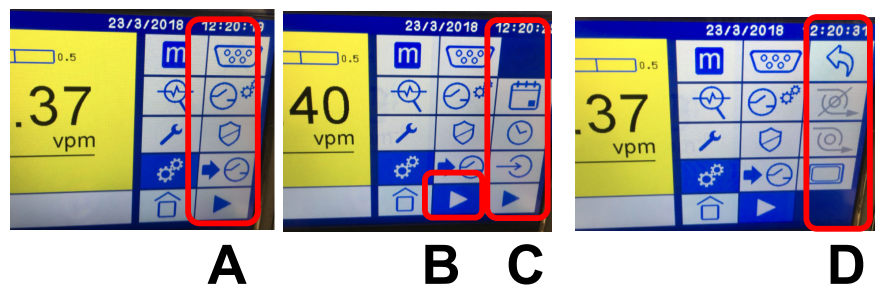

Figure 6-3: The User Interface Menu screen with the Settings branch activated
Figure 6-3 shows a Step Series of Screens that are launched when the Settings Main Menu icon  is touched:
- The first series of functional icons that belong to the Settings section are displayed in the column of icons to the right of the Main Menu icons (Figure 6-3 A).
- To display the next set of functions touch  which brings up the second set of Setting functions (Figure 6-3 C) to the right of the first set (Figure 6-3 A). Note that  is activated as the background color is now blue (Figure 6-3 B).
- To get the third and final set of functions touch  at the bottom of the list of the last column (Figure 6-3 C) and the third set of icons will replace the second set in the final column position (Figure 6-3 D).
- To return the second set of features touch the Return icon  at the top of the last column and the middle screen in Figure 6-3 will be returned.